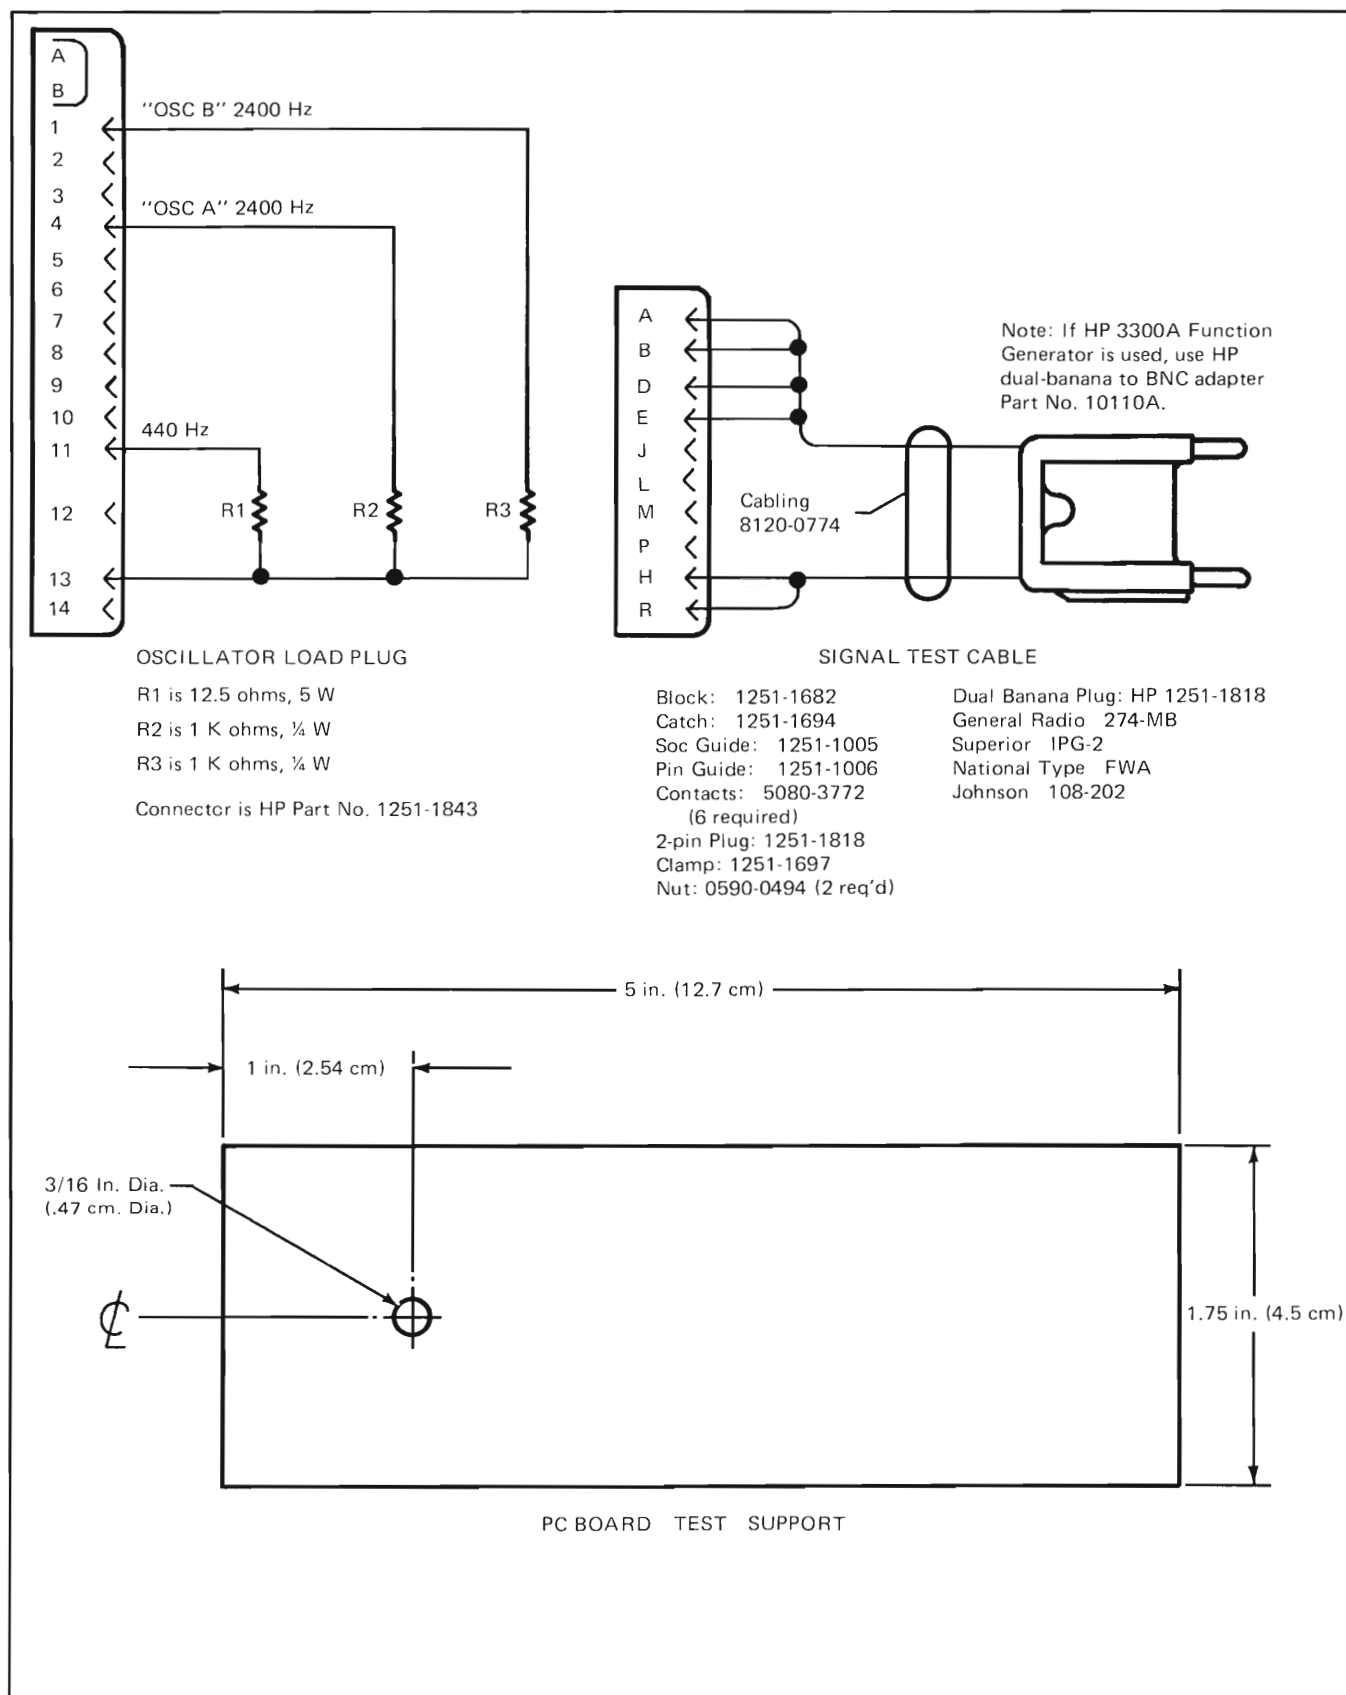
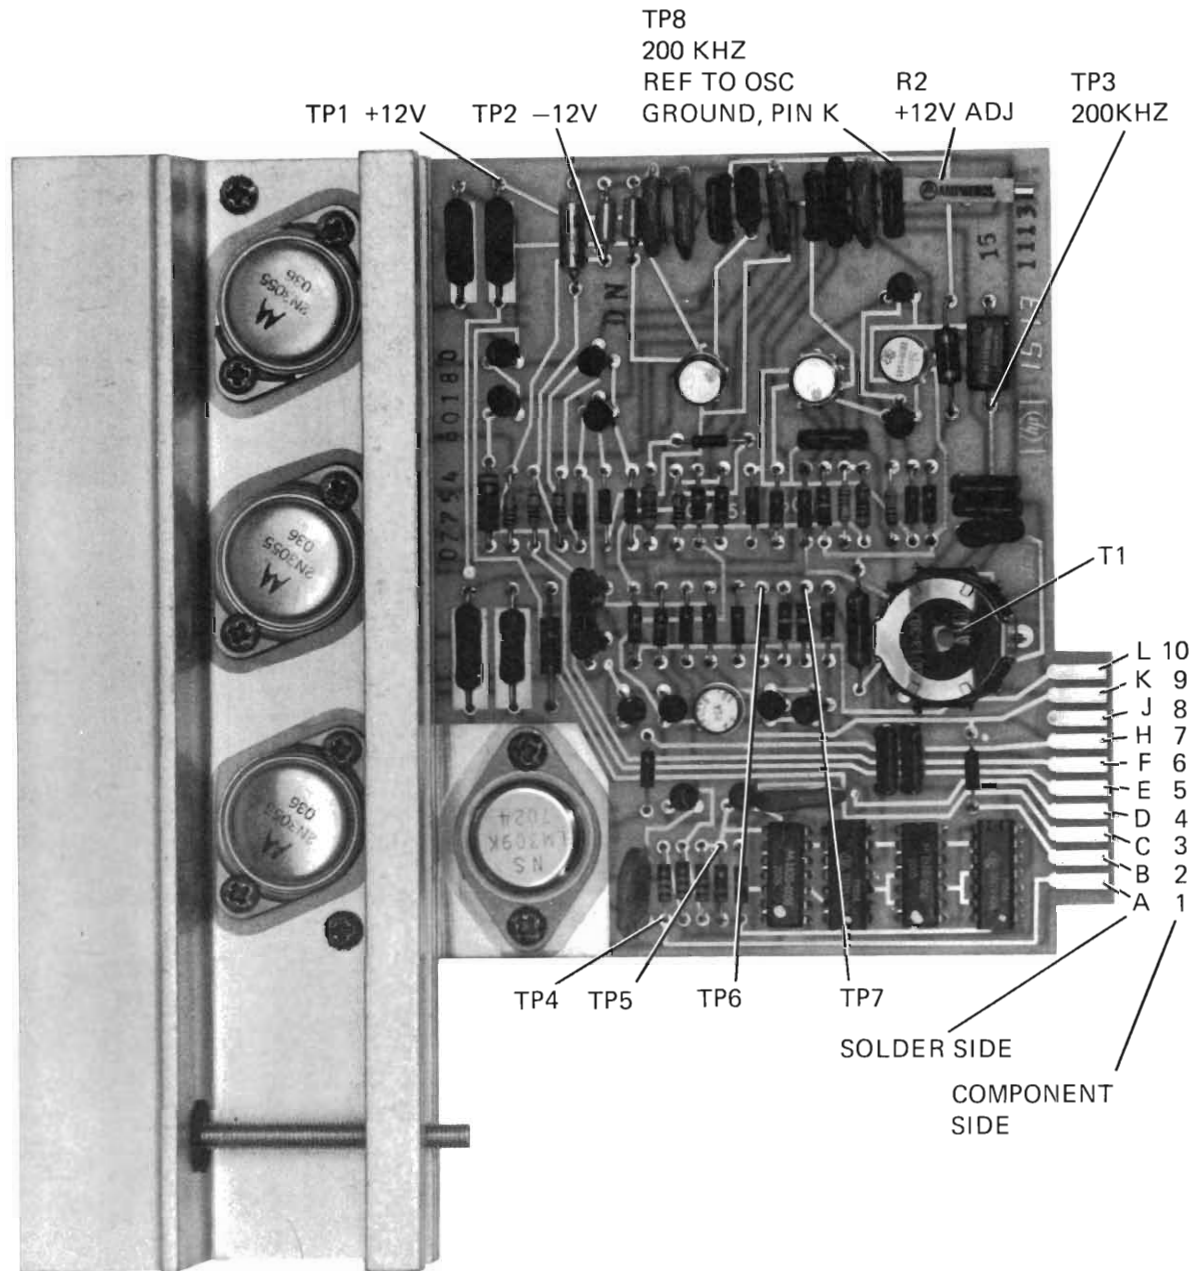
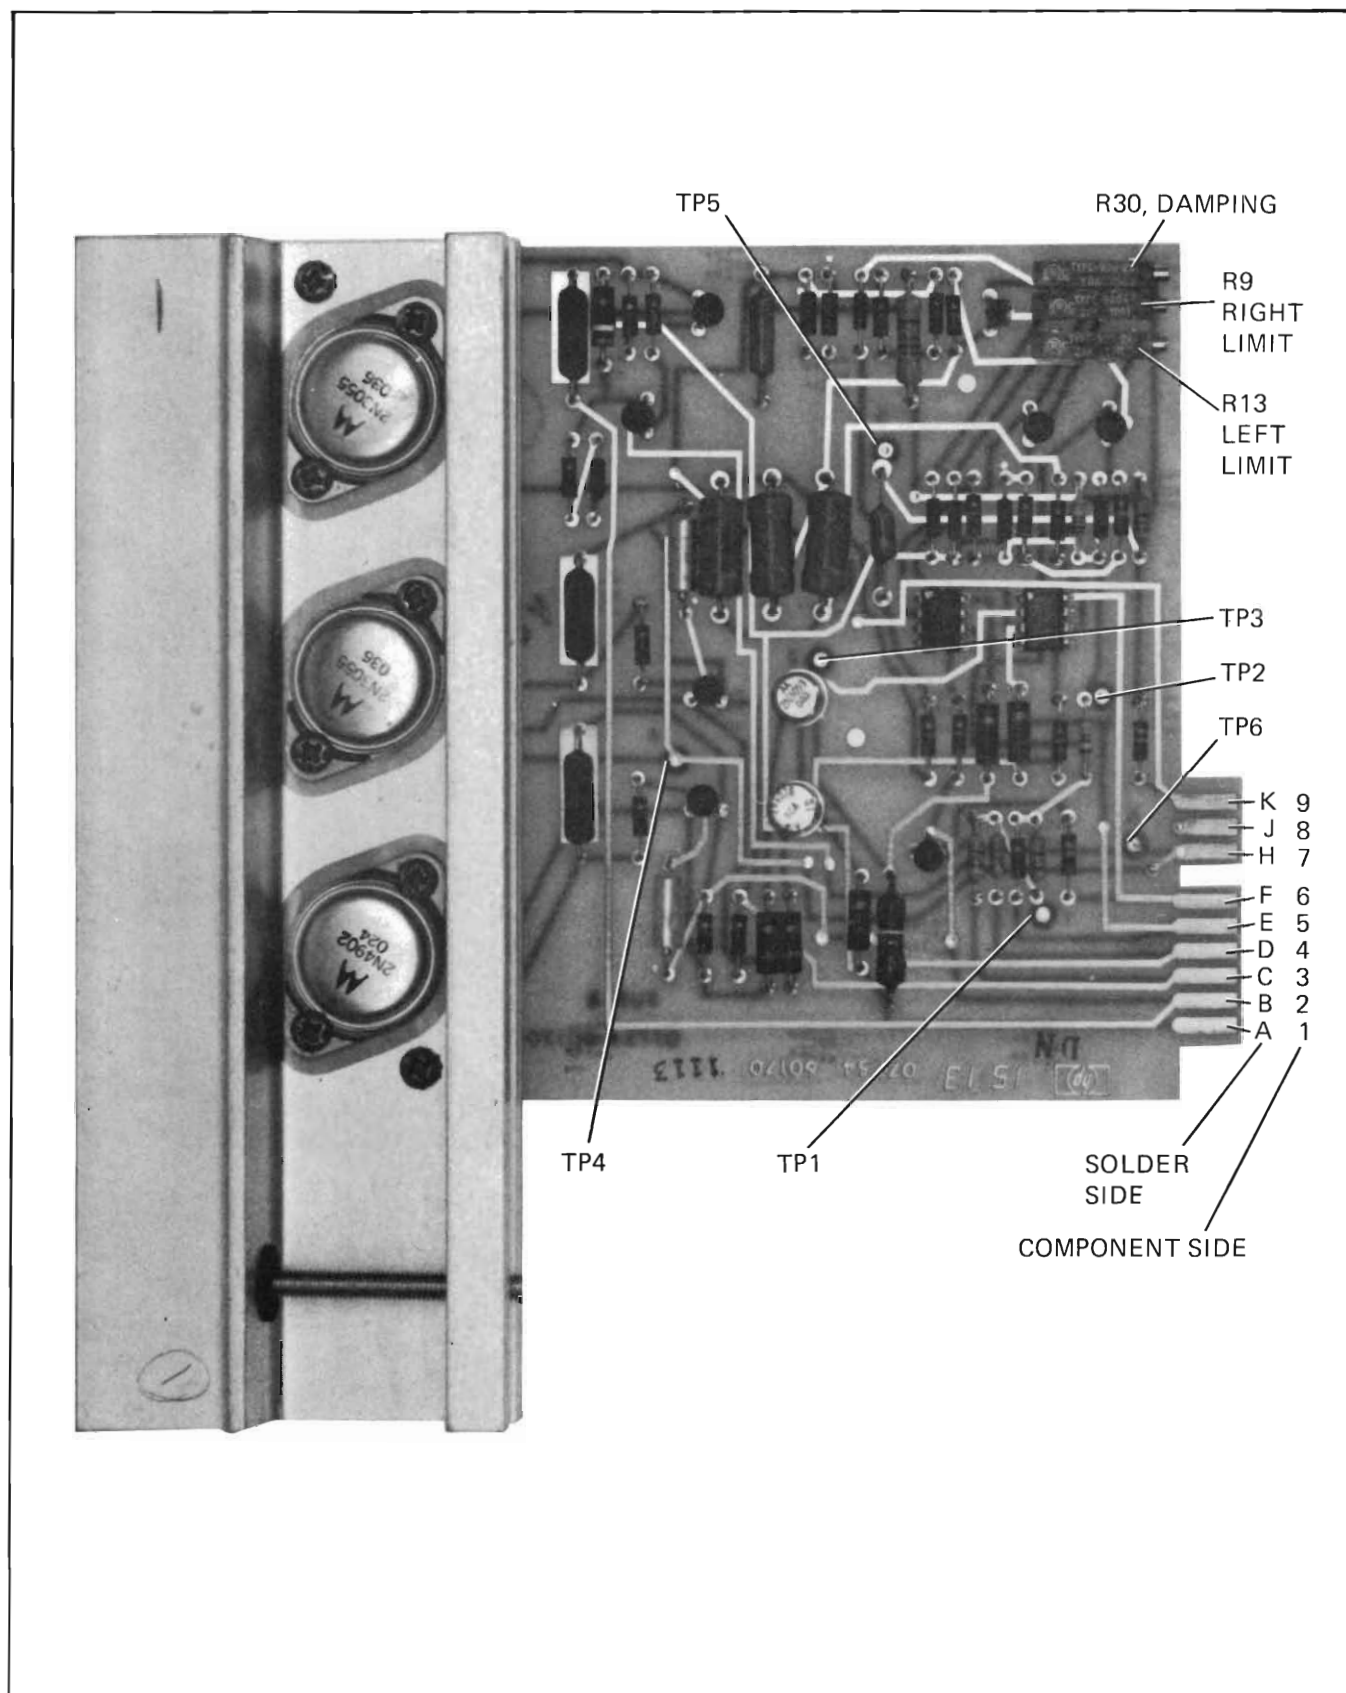

Figure 5-2. Test Cable, Plug and Fixtures
Figure 5-4. Regulator/Oscillator Board Test Points
Figure 5-5. Driver Amplifier Board Test Points
- h. Connect scope between TP1 (Figure 5-5) and signal ground.
5-21. For electrical performance checks and adjustments, refer to the procedures in Table 5-3. To remove and replace the Driver Amplifier, Regulator, and Power Supply Assemblies, see Figure 5-2 and 5-3. Driver Amplifier Board test points are shown in Figure 5-4. Regulator/Oscillator Board test points are shown in Figure 5-5.